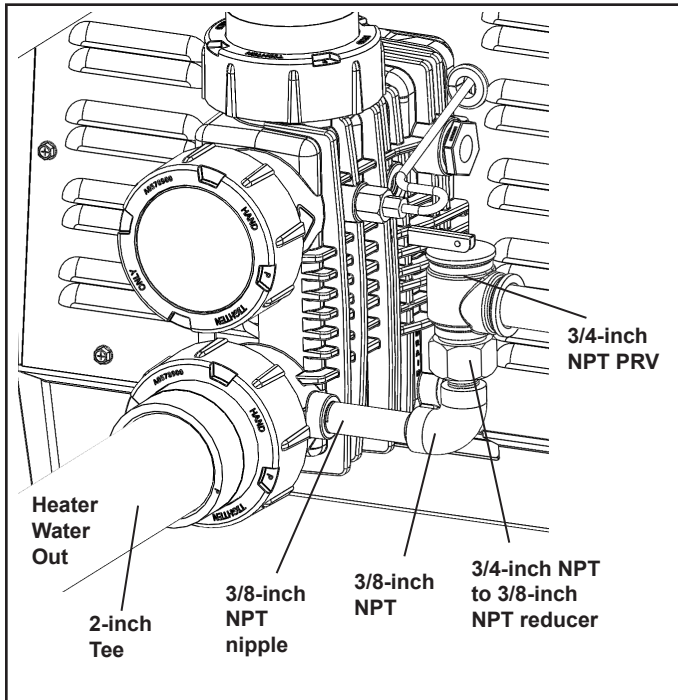

Figure 18. Pressure Relief Valve Installation
1. Locate the threaded boss on the outlet port of the in/out header (beside the “out” arrow). See Figure 18.
3. Install a brass 3/8 NPT x 3/8 NPT x 3" long pipe nipple into the boss, using 5 to 6 wraps of Teflon® tape on the threaded end. Do not overtighten. See Figure 18.
4. Wrap 5 or 6 turns of Teflon tape on the end of the pipe nipple and install a 3/8 NPT brass elbow while holding the pipe nipple from rotating. Orient the elbow to point straight up. See Figure 18.
5. Install a brass 3/4 NPT female to a 3/8 NPT male pipe adapter to the elbow using 5-6 turns of Teflon tape on the male end of the adapter. See Figure 18.
6. Install the pressure relief valve on the elbow. Use 5-6 turns of Teflon tape on the male end of the valve. Install the pressure relief valve so it is vertical. See Figure 18.